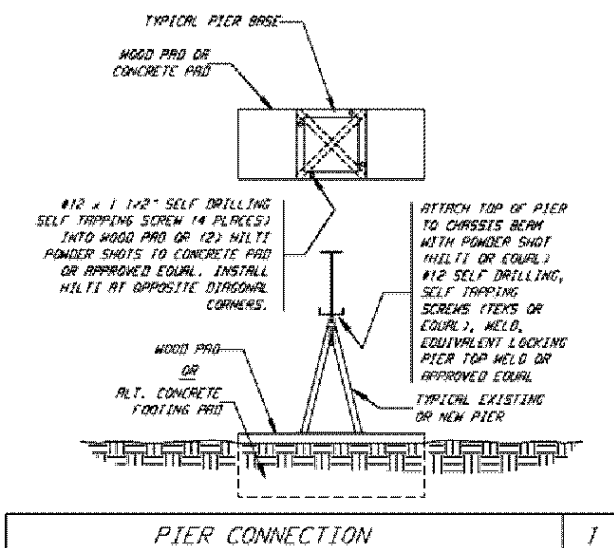
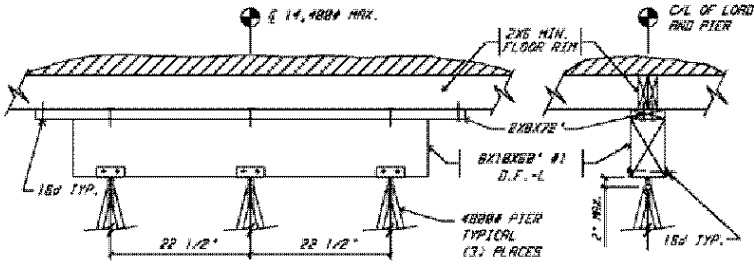

Figure 15. Basic Metal Pier Connection
Figure 24. Metal Pier Configuration at 14,400 lbs Main-line Pier Support
Once the load on the footing and the soil-bearing capacity are known, calculate the size of each footing as follows: (For **WOOD FOOTINGS** see **Figure 15 – Figure 24**)
- For Metal Piers on Wood Foundations see Figure 15 through Figure 24